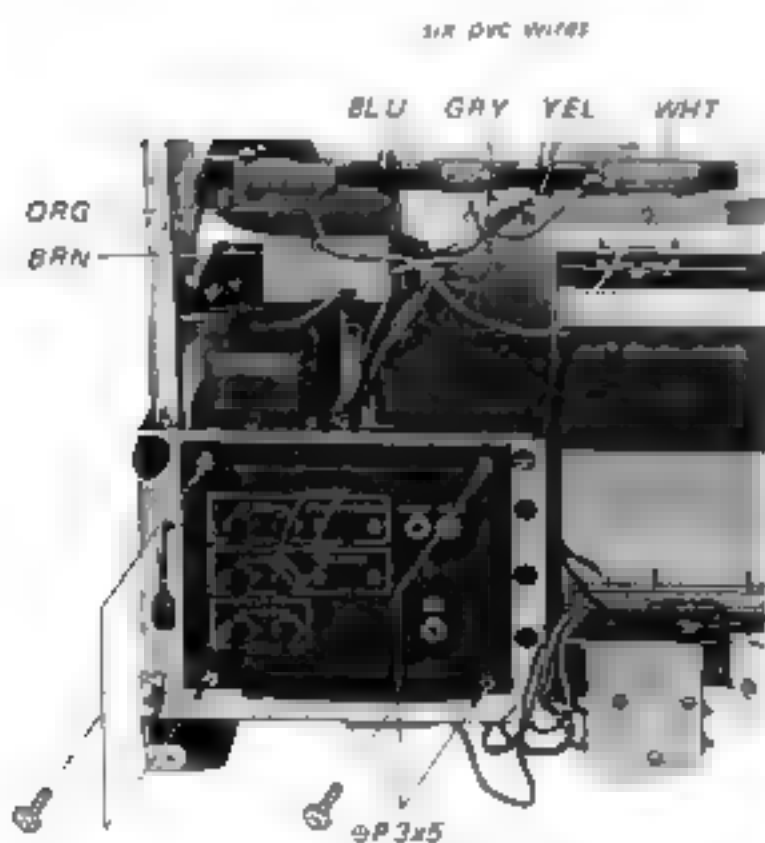
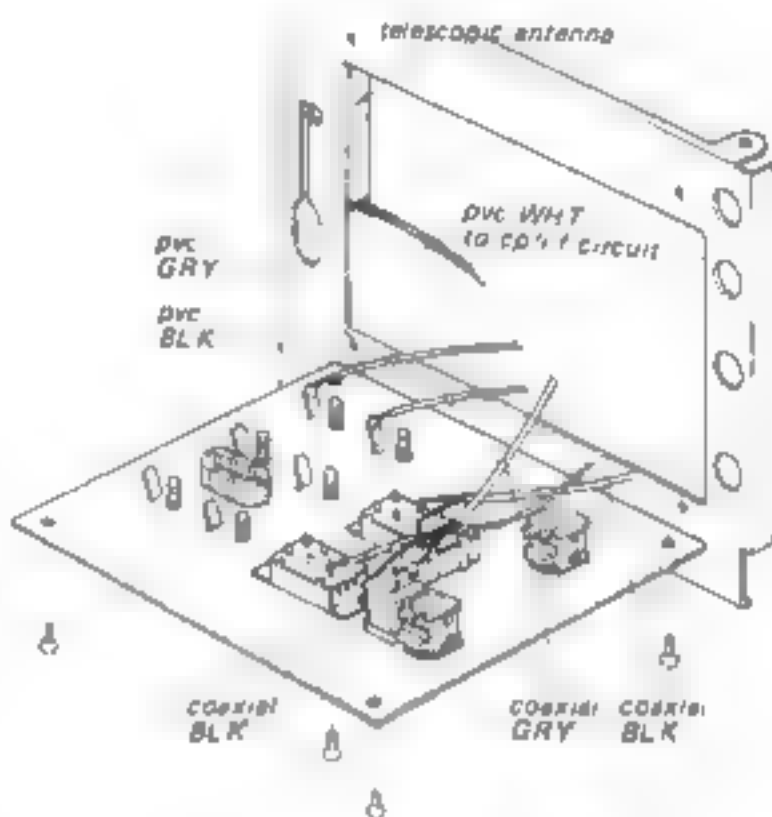

Fig. 2-10
Fig. 2-11
- 2 Unsolder the six lead wires at ferrite bar antenna as shown in Fig. 2-10.
- 3 Remove the four screws at the jack panel as illustrated in Fig. 2-10 and unsolder the six lead wires shown in Fig. 2-11